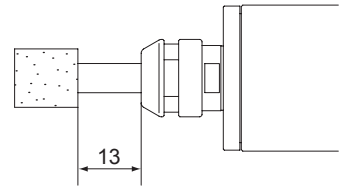

Fig. 20
- ① The proper surface speed for general grindstones is 10-30m/s.
- ② Do not exceed 13mm of overhang for mounted grindstones as shown in Fig. 20. If the overhang must exceed 13mm, reduce the motor speed in accordance with table 3.
- ③ Do not use tools with bent or broken shanks, cracks or excessive run-out.
- ④ Dress the grindstone prior to use.
- ⑤ For grinding, the maximum depth of cut should not exceed 0.01mm radially or axially. Reciprocate the tool several times after each pass to eliminate tool pressure.
- ⑥ Always operate tools within the allowable recommended speed of the tools. Use of a tool outside of the allowable speed of the tools could cause damage to the spindle and injury to the operator.
- ⑦ Keep the tool shank and collet clean. If contaminants are left in the collet or collet nut, excessive run-out will cause damage to the tool and or spindle.
- ⑧ Do not strike or disassemble the spindle.
- ⑨ Please set the tools to minimize the overhang amount. 13mm is the maximum amount of overhang to maintain high accuracy and safety.